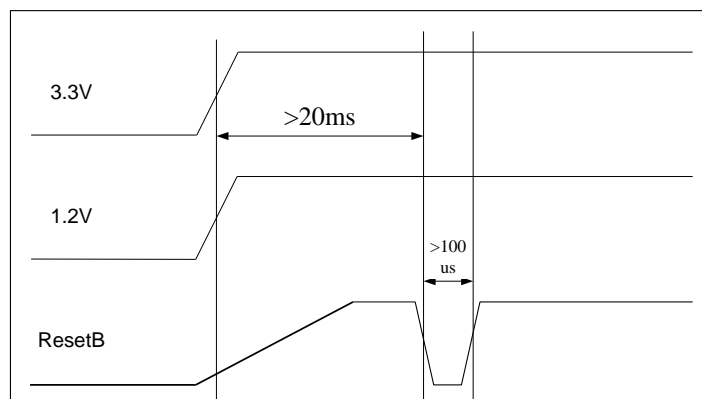

Figure 4: Power-on Reset Function's Sequence external global reset
2. RB signal is generate by system global reset. In this case, the power supply should be valid and stable for at least 20ms before the reset signal is valid. The pulse width of valid reset signal should be at least 100us. Otherwise, the chip can't work well. The timing is shown in **Figure 4**.